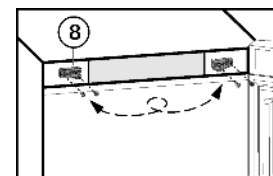

Fig. 17
- Unscrew bearing part Fig. 17 (8), turn it 180° and move it to the opposite side. Make preliminary holes (optional) or use a cordless screwdriver.